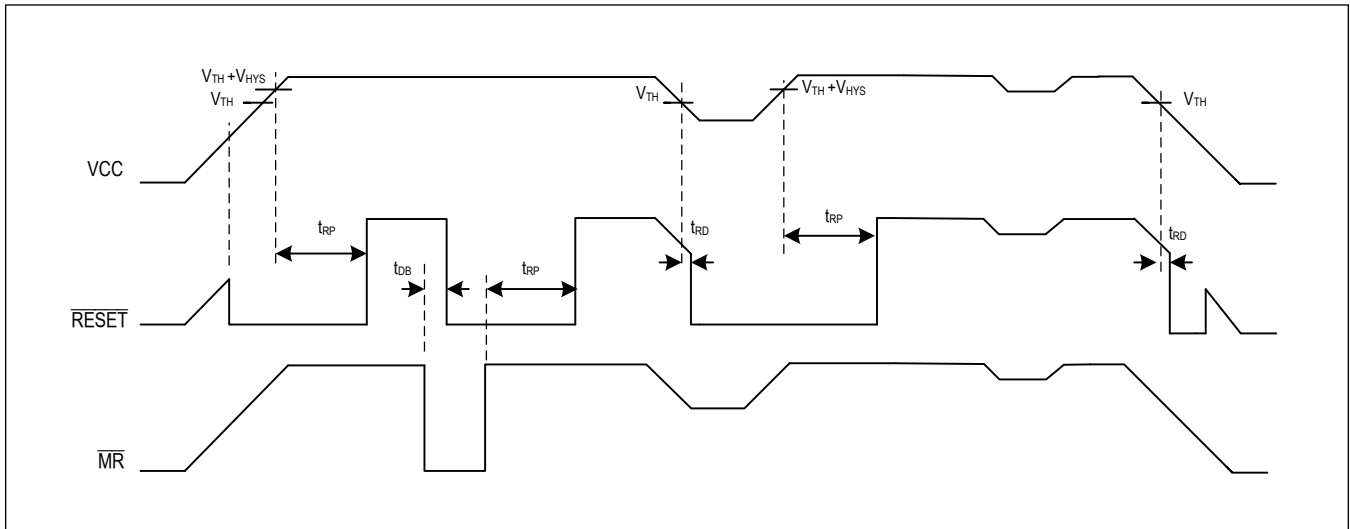

Figure 1. RESET and MR Timing Diagram
The MAX16143/MAX16145/MAX16147/MAX16149 operate with a V_{CC} supply voltage from +3.3V to +14V, with monitoring range of +3.3V to +11.6V. V_{CC} has a rising threshold of $V_{TH} + V_{HYST}$ and a falling threshold of V_{TH} . When V_{CC} rises above $V_{TH} + V_{HYST}$ and the manual reset input is in an inactive state, RESET deasserts after the reset timeout period (t_{RP}). See the timing diagram in Figure 1. When V_{CC} falls below V_{TH} , the reset output asserts low after a fixed delay (t_{RD}).
The MAX16143/MAX16145/MAX16147/MAX16149 are microprocessor supervisory circuits that assert a reset to prevent code-execution errors during power-up, power-down, and brownout conditions. The reset output asserts when the V_{CC} voltage falls below the factory-set threshold, V_{TH} . The reset output de-asserts after the reset timeout (t_{RP}) when V_{CC} voltage rises above the reset threshold plus the hysteresis voltage, ($V_{TH} + V_{HYST}$). The reset output is guaranteed to be at the correct logic voltage for V_{CC} voltage down to 1.3V. See Figure 1 for details.
Many systems require manual reset capability, allowing the operator, a test technician, or external logic circuitry to initiate a reset. The MAX16143/MAX16145/MAX16147/MAX16149 provide this capability by featuring an manual reset input (MR). When a manual reset is initiated, the reset output asserts and remain asserted as long as the manual reset input is in active state. Reset deasserts after reset timeout when the manual reset input is released. Figure 1 shows the behavior of the manual reset configured as active-low, with 50k Ω pull (\overline{MR}). See Selector Guide for available options.